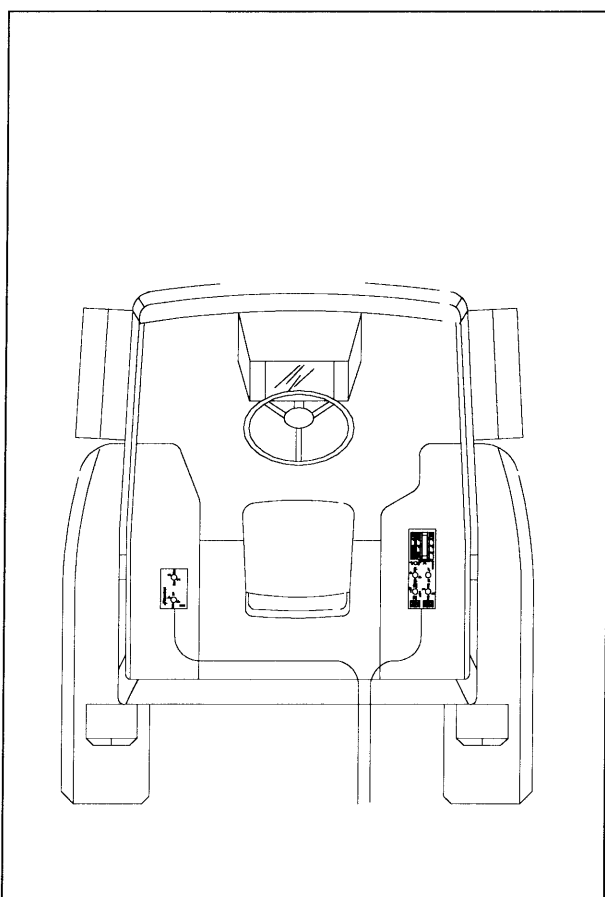

Fig. 22-5
2. Place the control panel in a proper position on the drivers right hand side (Fig. 22-5). If the machine is fitted with an extra control panel, place this on the left hand side.